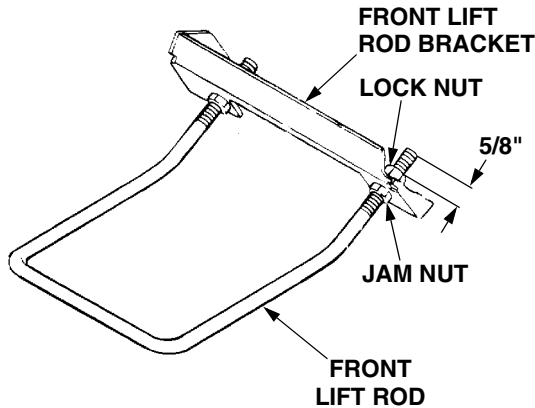

Figure 32
- Initially adjust the front lift rod to allow 5/8 inch of thread to protrude beyond both lock nuts of the front lift rod/bracket assembly (Refer to Figure 32).
- To adjust the downward tilt of the blades, adjustment of the front lift rod is required. Refer to Figure 32 and proceed as follows: